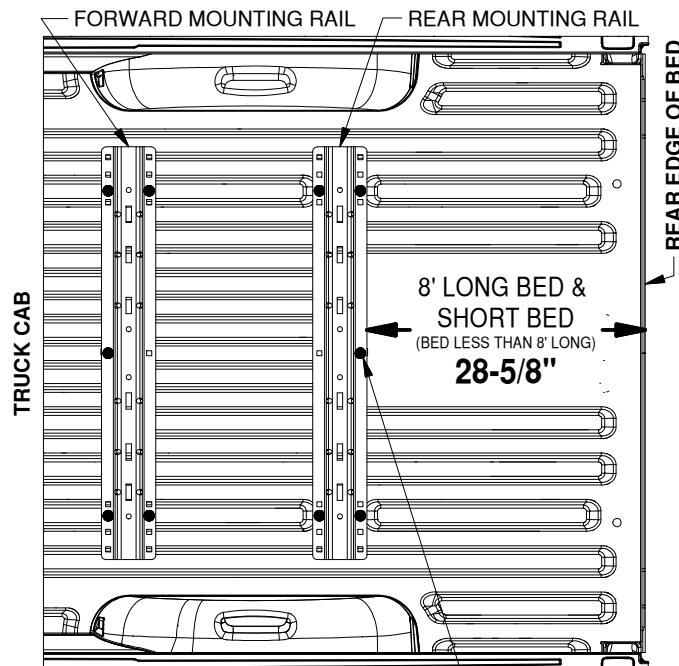

Figure B1: View over bed, showing drill locations for the forward and rear rails. DRILL LOCATIONS HIGHLIGHTED BY BLACK DOTS
- Layout the rear mounting rail.** Place a mounting rail onto the bed of the truck. Hook a tape measure over the rear edge of the bed (not on any part of the tailgate), measure the location for the mounting rail as shown in Figure B1. Next, center the mounting rail in the bed by measuring the distance on either side from the edge of the rail to the side of wheel well. The rail will be centered when both measurements on either side of the rail are the same.
- Mark hole locations.** While carefully ensuring the mounting rail does not move, use a center punch tool to mark the 5 drill locations on the rear rail. See Figure B1 for hole marking locations for this installation (forward rails will install in a later step). Once all 5 rear rail locations are clearly marked, move the bed rail out of the way and drill each location with an 1/8" drill bit.
2. **Drill forward mounting holes.** Using the same methods as used for the rear mounting rail mark, drill, check, and enlarge the holes for the forward mounting rail. Refer to "ENLARGE HOLES & INSTALL SIDE PLATES" section, Steps 1 through 2, on previous page. Notice that the hole locations are slightly different than the rear rail, see Figure B1 (on the second page).